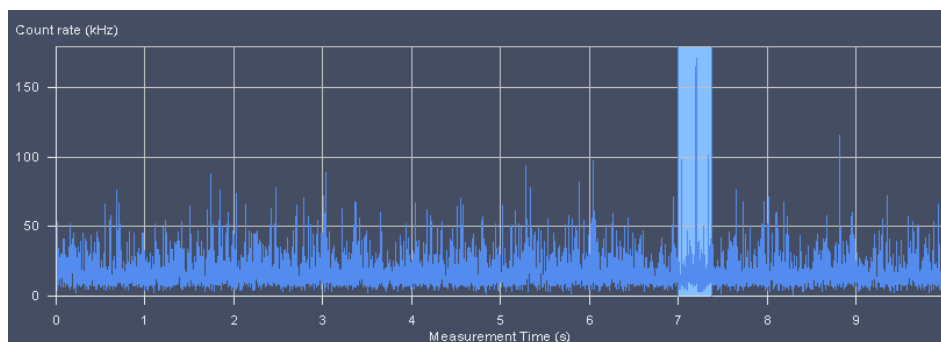

Fig. 9-88 Count rate trace with cut out regions
- If you have a raw data file available, you can define cut regions by choosing the **New cut region** option. The cut region size can be adapted by two sliders. The cut out region is thereby displayed as a matted box (Fig. 9-88). You can select independent cut regions for different channels of a cross correlation